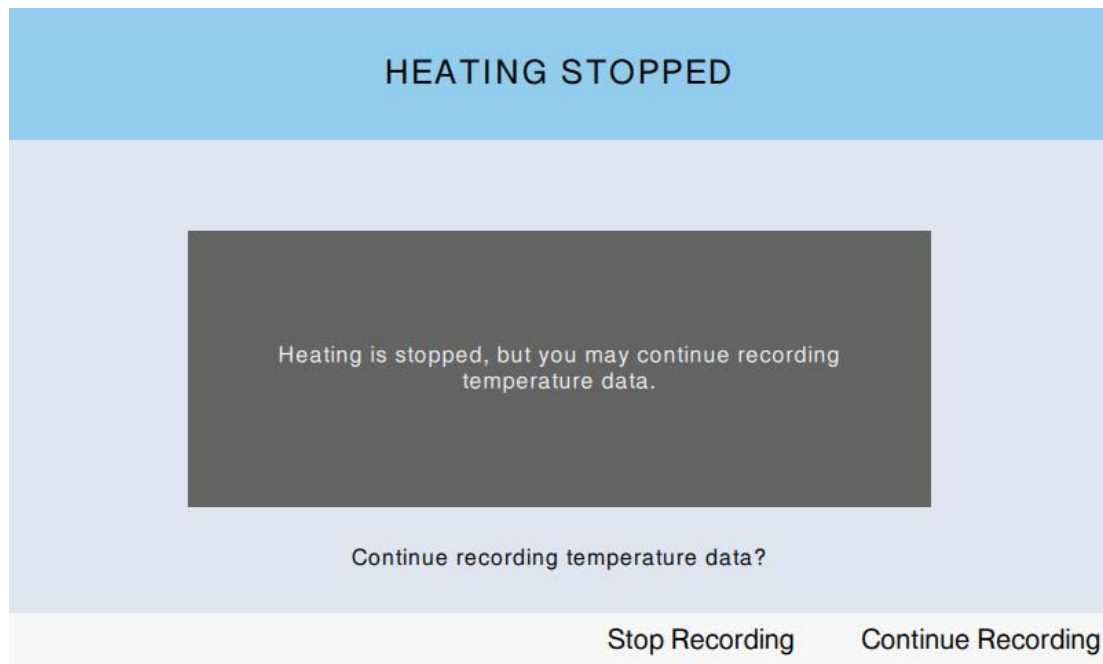

Figure 7-9. Stop Recording Message
7. When the Bakeout sequence is complete, a message is displayed to press **[Stop]**. After pressing **[Stop]**, a second message is displayed asking if recording should be stopped. Press **[Stop Recording]** to end the recording or **[Continue Recording]** to keep recording. See Figure 7-9.